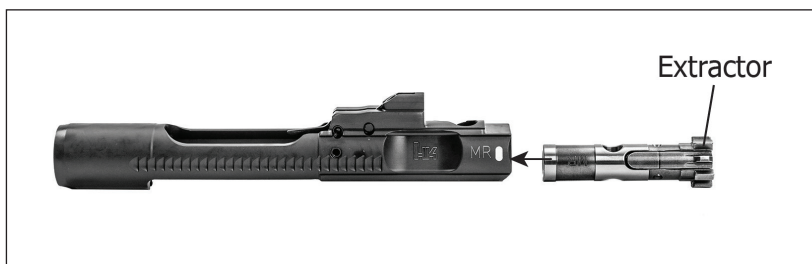

Fig. 33 – Bolt Carrier reassembly
- a. Slide the bolt head into the bolt carrier until the circular mounting surface for the cam pin on the bolt heads aligns with the front of the raceway on the bolt head carrier. Pointed down range, the extractor should be on the right-hand side of the bolt carrier and ejector should be on the left (Fig. 33).